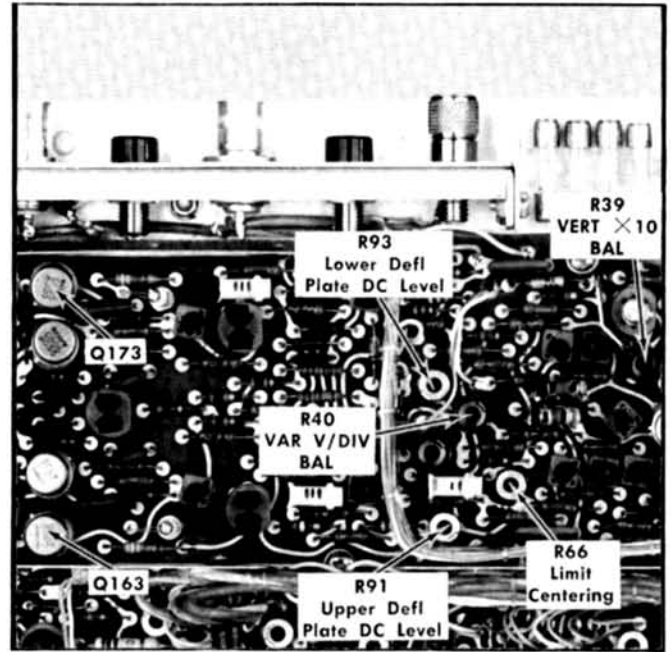

Fig. 6-5. Location of vertical adjustments (Main board).
10. Adjust Variable Volts/Division Balance ①
c. ADJUST—VAR V/DIV BAL adjustment, R40 (see Fig. 6-5), for no trace shift as the VARIABLE VOLTS/DIV control is rotated. If necessary, use the vertical POSITION control to keep the trace on screen during this adjustment.
11. Adjust Vertical ×10 Balance ①
e. ADJUST—VERT ×10 BAL adjustment, R39 (see Fig. 6-5), to return the trace to the center horizontal line. Repeat parts b through e for minimum trace shift as the ×10 VERT GAIN switch is pulled out.
12. Adjust Deflection Plate DC Level ①
b. Connect the precision DC voltmeter from the collector of Q163 (case of Q163; see Fig. 6-5) to chassis ground.
e. ADJUST—Upper Defl Plate DC Level adjustment, R91 (see Fig. 6-5), to center the measured voltage range around +50 volts.
f. Connect the precision DC voltmeter from the collector of Q173 (case of Q173; see Fig. 6-5) to chassis ground.
i. ADJUST—Lower Defl Plate DC Level adjustment, R93 (see Fig. 6-5) to center the measured voltage range around +50 volts.
k. Connect the precision DC voltmeter from the collector of Q163 (case of Q163; see Fig. 6-5) to chassis ground.
l. Preadjust the Limit Centering adjustment, R66 (see Fig. 6-5), for a meter reading of +50 volts (perform this adjustment only if proceeding to next step).